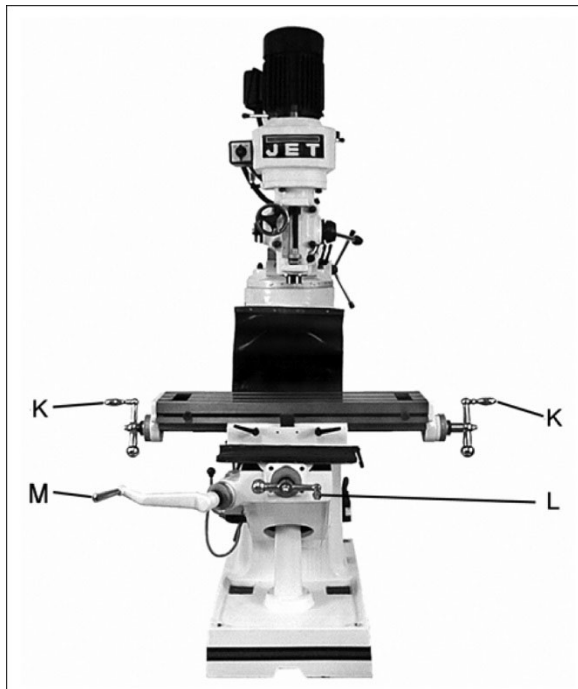

Figure 8: controls
- K. **Longitudinal Movement** (K, Figure 8) – Handles located on opposite ends of table. This controls the X-axis.
- L. **Cross Movement** (L, Figure 8) – Handle located directly in front of machine. This controls the Y-axis.
- M. **Knee Handle** (M, Figure 8) – Raises the table up and down.